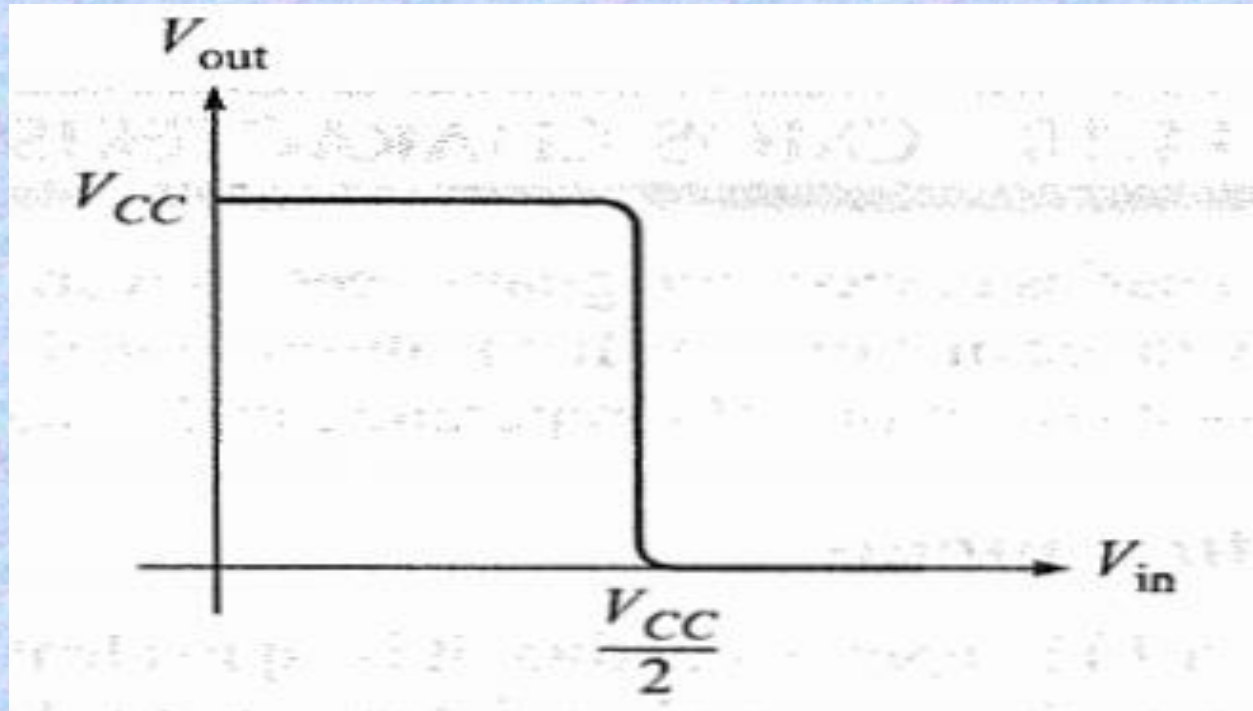

Fig. 1.32 Typical transfer characteristic of a CMOS gate
- Figure 1.32 shows a typical transfer characteristic (input-output graph) of a CMOS inverter. When the input voltage is in the low state, the output voltage is in the high state. As the input voltage increases, the output remains in the high state until a threshold is reached. Somewhere near an input voltage of $V_{cc}/2$, the output will switch to the low state. Then any input voltage greater than $V_{cc}/2$ holds the output in the low state.